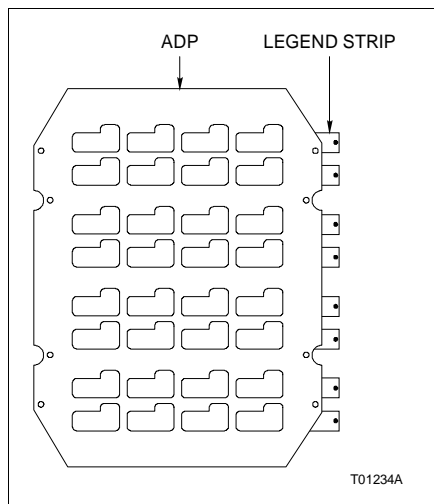

Figure PR65-3. ADP Legend Strips
- 8. Pull on the legend strip tab to remove it (Fig PR65-3).